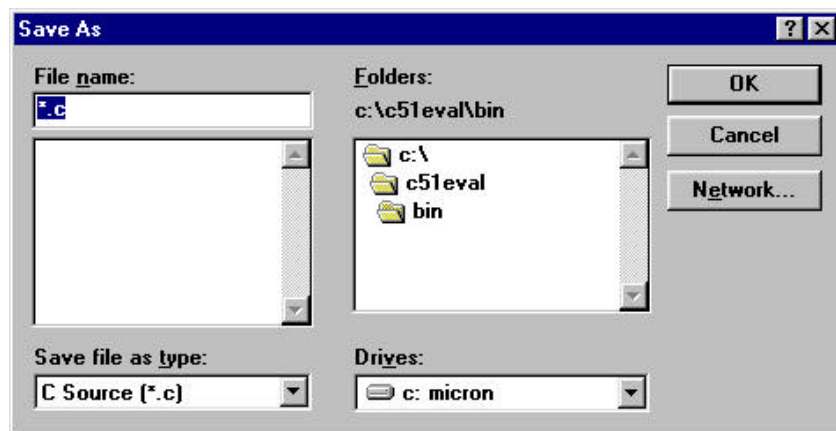

Figure 4
3. After you finish typing the code, open the File menu and choose *Save*. The window shown in Figure 4 appears.